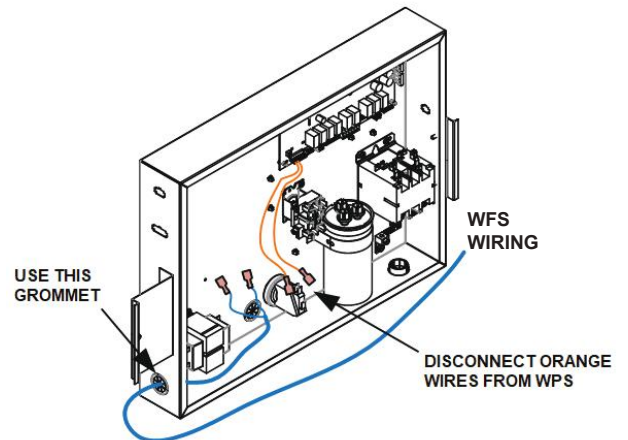

Figure 159. WFS Wire Routing into J-Box
7. Use the grommets in the control box to run wires from inside the corner post to the inside of the electrical junction box, using the grommets located next to the transformer. See Figure 159.
8. Locate the orange wires connected to the Water Pressure Switch (WPS). Proceed to disconnect the terminals from the WPS. See Figure 159.